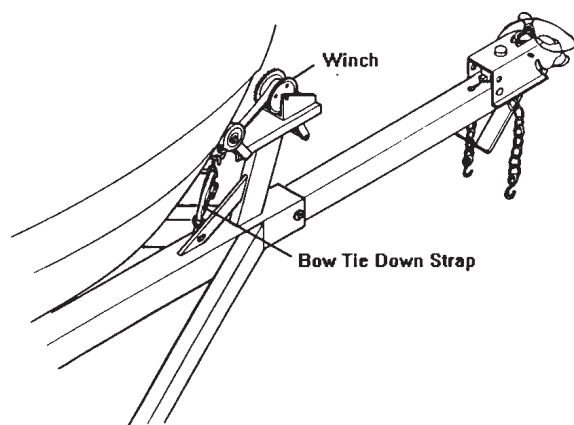

Figure P8: Bow Tie Down Strap
1. **Bow Tie-downs:** A bow stop to hold the front of your boat in place is located on the winch stand. It should be positioned so that the winch line pulls straight and is parallel to the trailer frame. A separate tie-down should then be attached to hold the boat. See Figure P8.